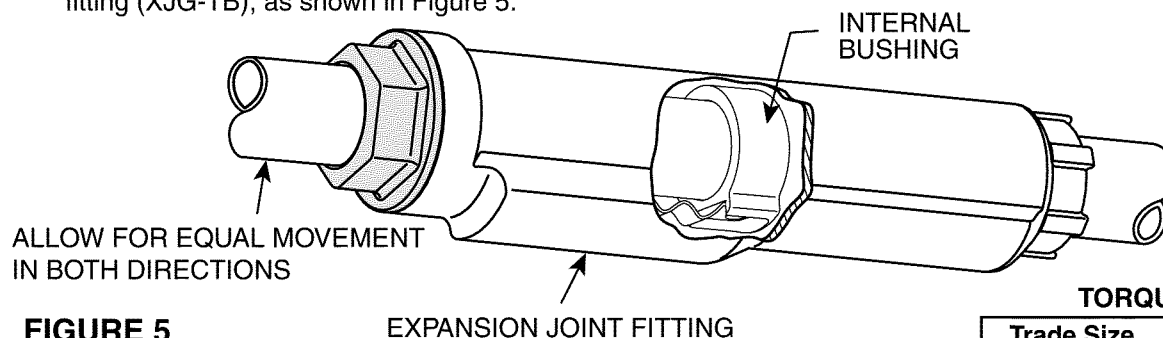

FIGURE 5
- 4) Allow for movement in either direction by positioning the internal bushing in the middle of the expansion joint fitting (XJG-TB), as shown in Figure 5.